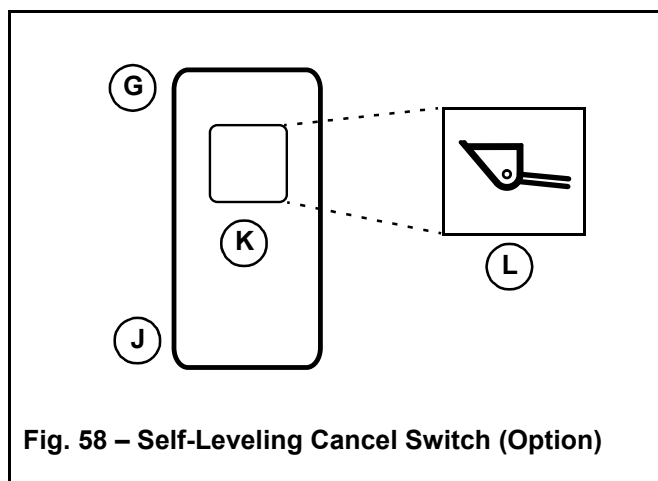

Fig. 58 – Self-Leveling Cancel Switch (Option)
To deactivate self-leveling, press the top (G, Fig. 58) of the self-leveling cancel switch (K). To restore self-leveling, press the bottom (J) of the self-leveling cancel switch.